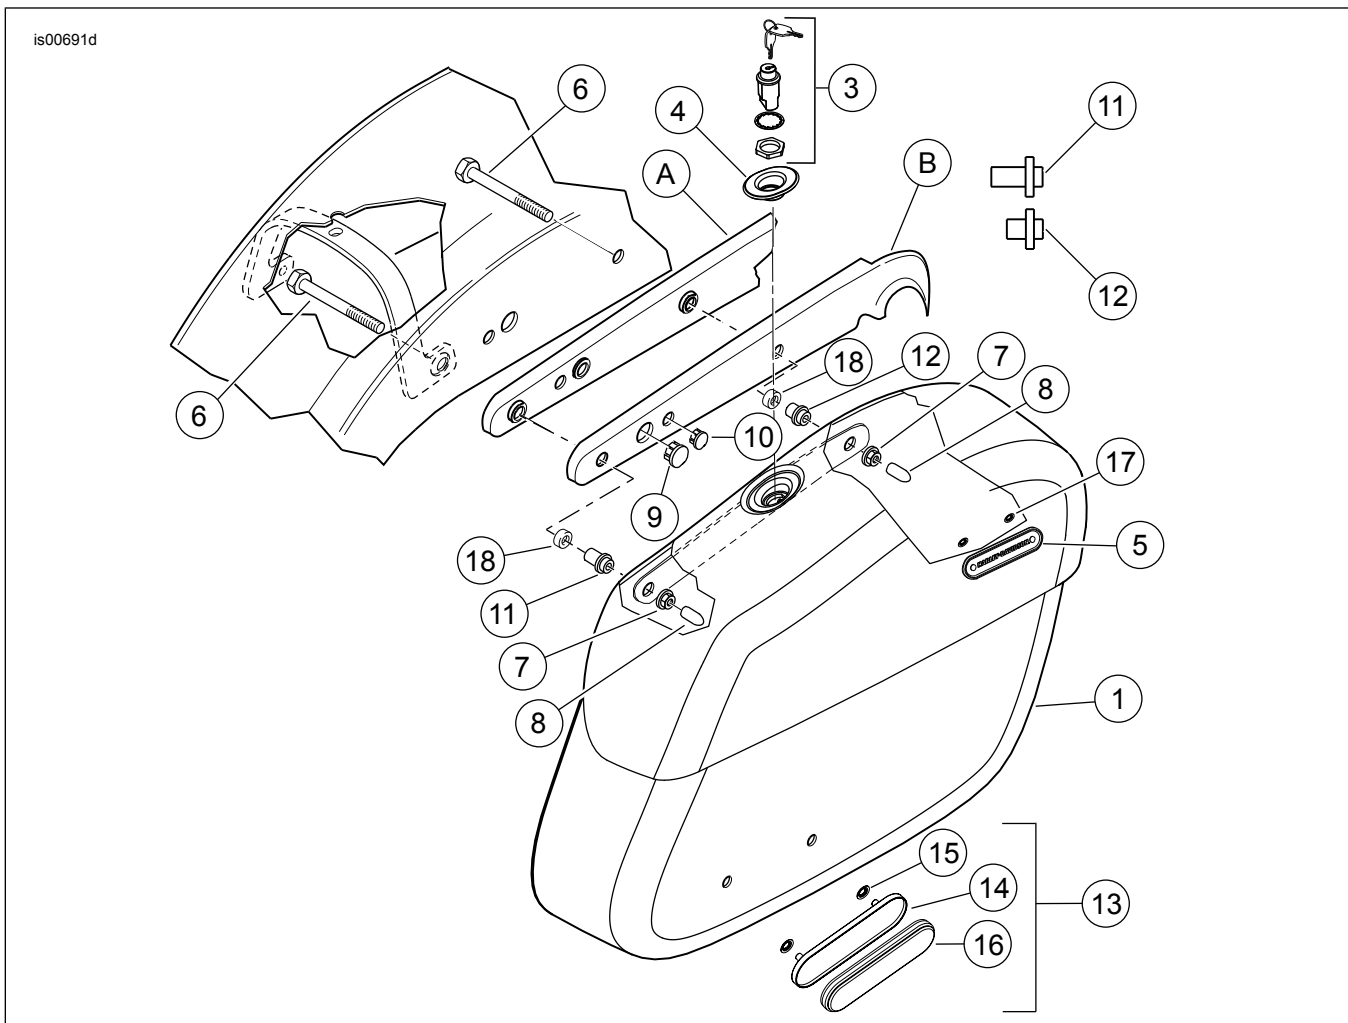

Figure 2. Service Parts: Sportster Rigid Leather Saddlebag Kit (right side shown)
See Figure 2 and Table 1.
5. See Figure 2. From the underside of the fender, install two bolts (6) from kit through the fender and into the fender support (A) and cover (B), where the two button head screws were previously removed in Step 3.
6. For kit 53050-10: Install the short bushing (12) onto the front bolt (short end toward saddlebag) and the long bushing (11) onto the rear bolt (short end toward saddlebag). For kit 90201321: Install the spacer (18), then the short bushing (12), onto the front bolt (short end toward saddlebag). Install the spacer (18), then the long bushing (11) onto the rear bolt (short end toward saddlebag).
8. Thread flange locknuts (7) to bolts on the inside of the saddlebag. Tighten both flange locknuts to 24-27 ft-lbs (33-37 Nm).
9. Install a thread protector cap (8) onto each of the bolt ends.
2. See Figure 2. Position reflector mount (14) on saddlebag.
7. Install reflector mount (14) on saddlebag using two push nuts (15).
8. Remove backing from adhesive on reflector (16) and install on mount (14).